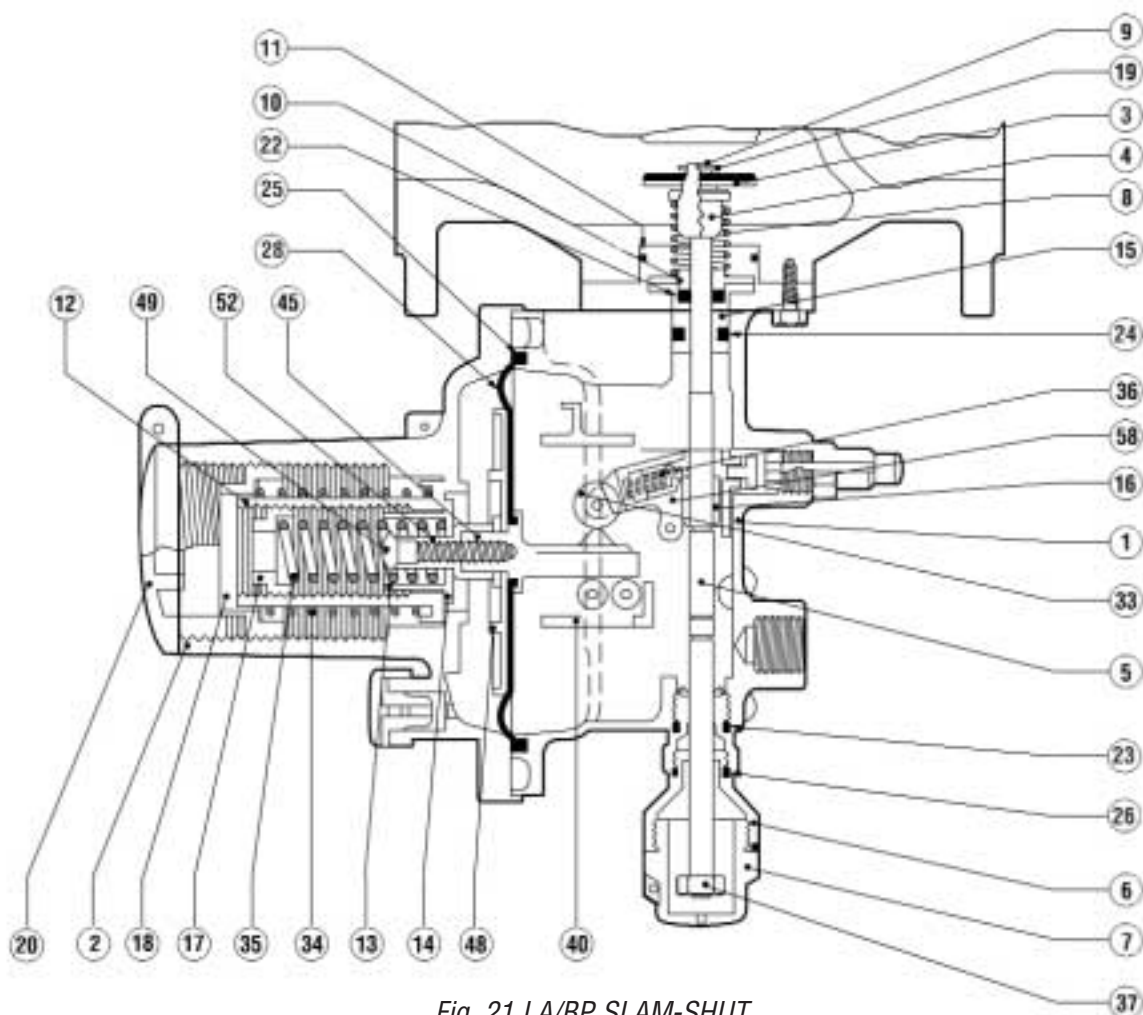

Fig. 21 LA/BP SLAM-SHUT
6.2 Tab. 10 LA/... SLAM-SHUT (FIG. 21)
7.2.3 LA/..SLAM-SHUT (fig. 21)